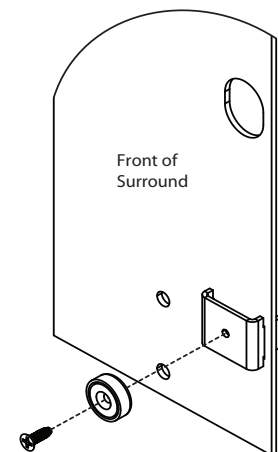

Figure 22.3
5. Secure the magnet to the bracket. The magnet is facing the front (**Figure 22.3**).